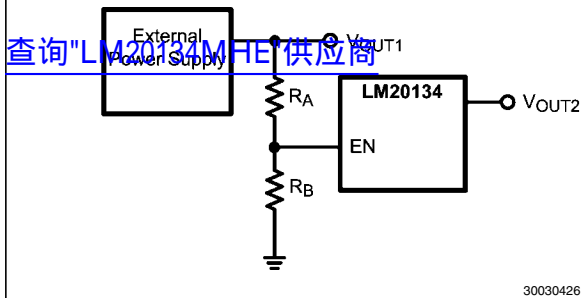

FIGURE 6. Sequencing LM20134 with Precision Enable
The precision enable(EN) and power good(PGOOD) pins of the LM20134 can be used to address many sequencing requirements. The turn-on of the LM20134 can be controlled with the precision enable pin by using two external resistors as shown in Figure 6